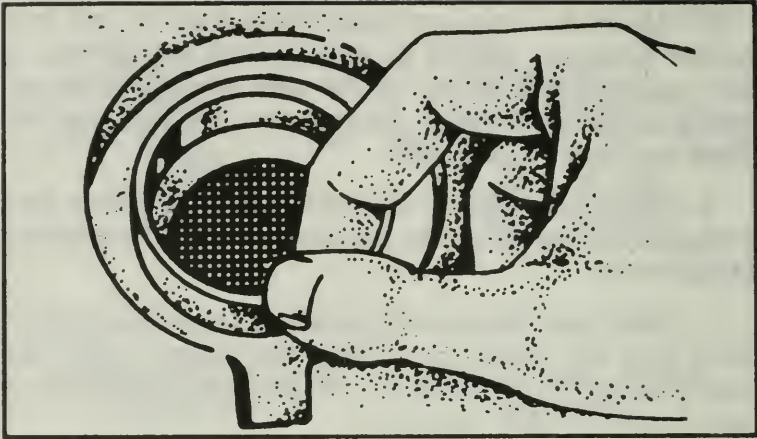

Figure 254. Mounting collar in filter connector flange.
k. Work the collar under the connector flange and recheck the filter element position. Adjust if necessary (Figure 254).